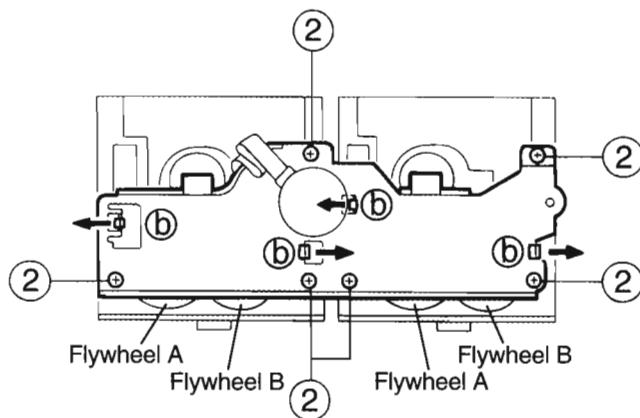

Fig.5
■Capstan motor removal(See Fig.5~7)
5. Put the cutting on the flywheel A together the bracket's pall as shown in fig.5(Flywheel A)and check that the flywheel B is removed from the bracket's pall(fig.5,6 Flywheel B).
■Flywheel removal(See Fig.5~7)